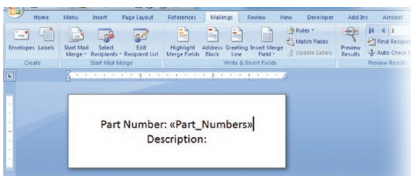

FIGURE 12 Word document ready to receive data from Excel Column A.
J. Select **Column A header**. A **Column A space-holder** (<<Part_Numbers>>) appears next to the Column A header (Fig. 12).